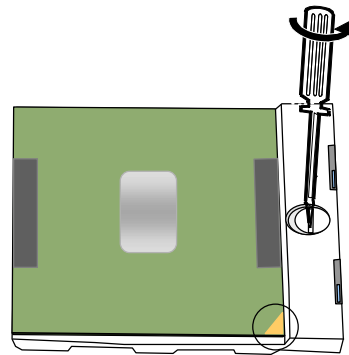

Figure 2-8 Remove the CPU socket
4. Loosen the screw by a flat screwdriver,upraise the CPU socket to unlock the CPU. (Figure 2-8)